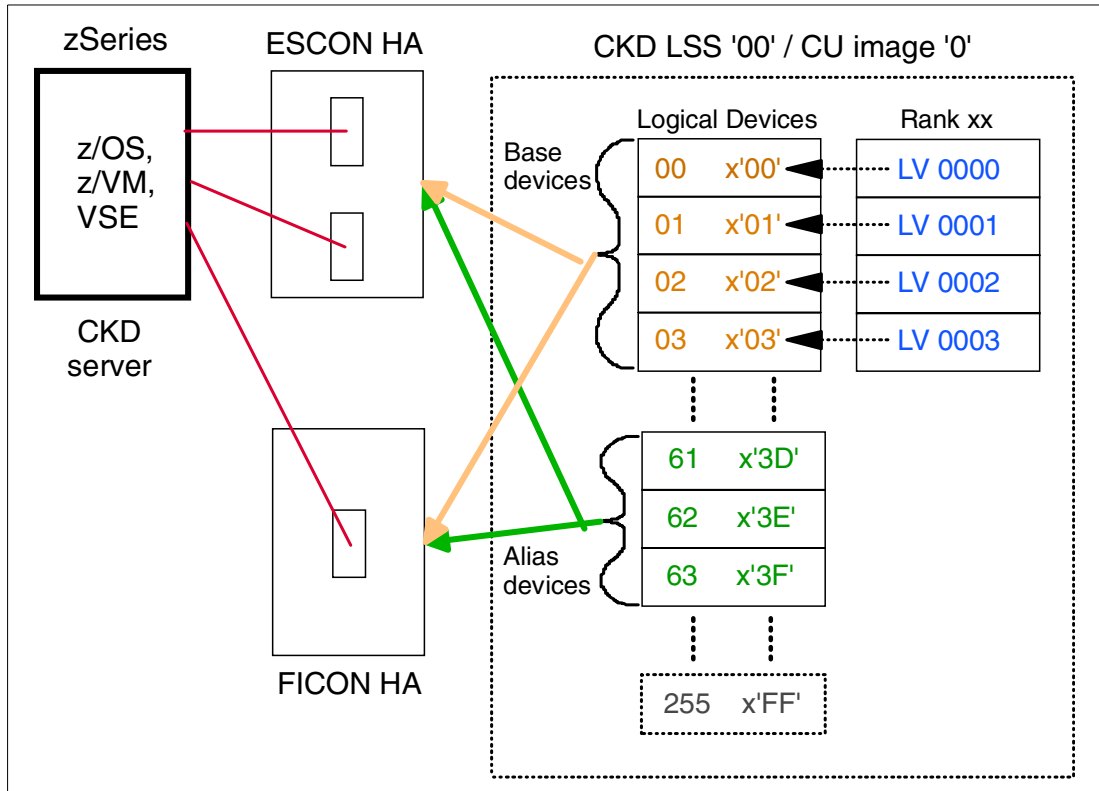

Figure 4-29 CKD logical device mapping
The CKD logical volumes are mapped into a logical device map in a CKD LSS. Figure 4-29 on page 129 shows that the logical devices in such an LSS represent the device address of the logical volume, ranging from x'00' to x'FF'. Because each LSS is seen as a logical control unit, the zSeries systems will see it as a 3990-x with up to 256 devices. The logical devices (LD) need not be mapped to the ESCON or FICON host adapters, because the zSeries hosts have access to all the LDs through any of the ESCON or FICON connections available. The set of logical devices accessed by any S/390 image is defined with the *Hardware Configuration Definition* (HCD) in the IODF file that the operating system uses to recognize its hardware topology.
Figure 4-29 on page 129 shows a CKD storage map and an example of how base and alias devices are mapped into a 64 device address range (when `UNITADD=(00,64)`) in the `CNTLUNIT` macro of the IOCP definition). The figure shows the possible 256 logical devices available in the LSS, but which are not all defined.
Note: The intermixing of ESCON and FICON channels on one control unit, as shown in Figure 4-29 on page 129, is only supported for migration purposes. It is not a recommended configuration for a production environment as explained in 4.34, “ESCON and FICON connectivity intermix” on page 144.